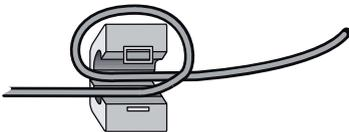

Fig. 17
- Make a loop in the power cord and lay the loop inside the ferrite sleeve as shown in fig. 17.